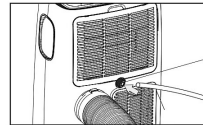

Fig. 18
- Connect one end of the garden hose (sold separately) or drainage hose (not supplied) to the drain outlet then lead the other end into a drain that is lower than the unit (Fig.18).